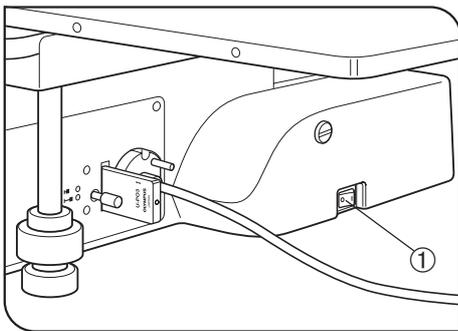

Fig. 27
(Figs. 27 to 29)
- ▲Make sure that the main switch ① is set to “○” (OFF) before connecting cords and cables. (Fig. 27)